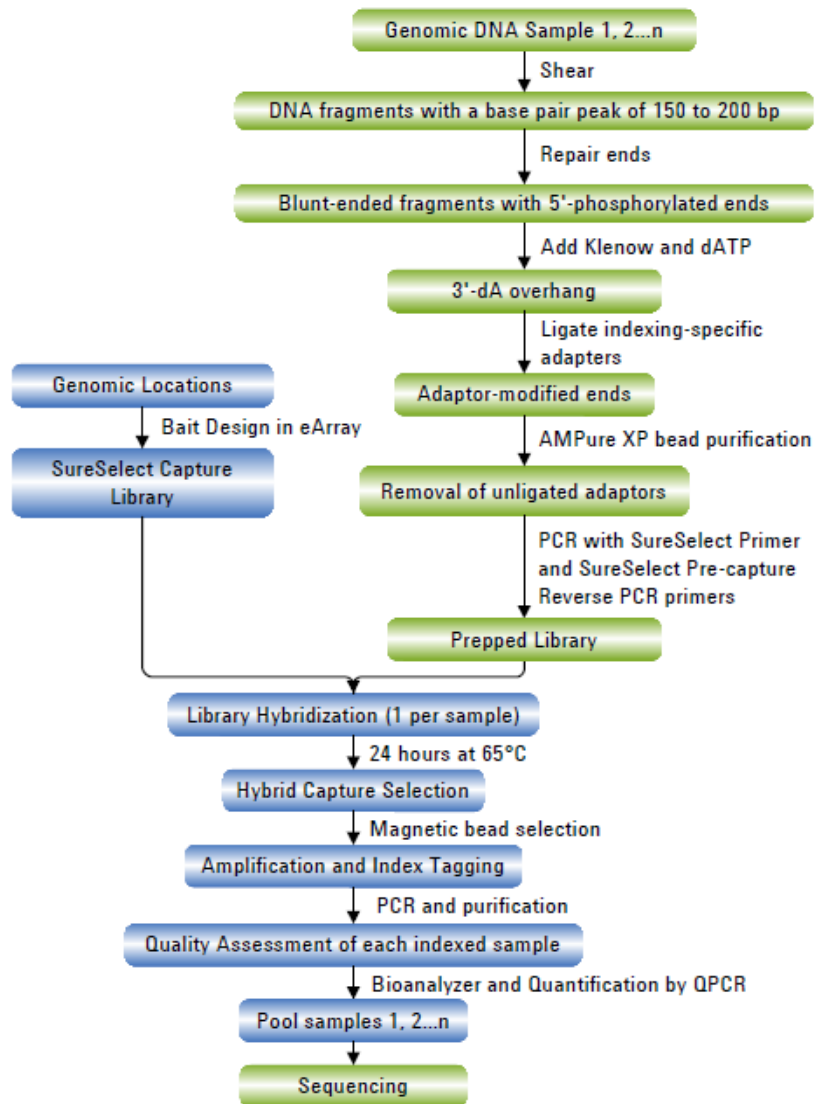

Figure 2 Overall sequencing sample preparation workflow.
Figure 2 summarizes the SureSelect target enrichment workflow for samples to be sequenced using the Illumina paired-read sequencing platform. For each sample to be sequenced, individual library preparations, hybridizations, and captures are performed. The samples are then tagged by PCR with an index sequence. Depending on the target size of the SureSelect capture, up to 16 samples can be pooled and sequenced in a single lane using the Illumina-specified multiplex index tags that are provided with SureSelect Library Prep kits.
- At the hybridization step (see Figure 2), you can add a different SureSelect Capture Library to each row of the plate. Plan your experiment such that each prepared DNA library corresponds to the appropriate SureSelect Capture Library.
- For sample indexing after hybridization to the SureSelect library (see Figure 2), you will need to prepare a separate plate containing the indexing primers. Assign the wells to be indexed with their respective indexing primers during experimental design.
- For post-capture amplification (see Figure 2), different SureSelect Capture Libraries can require different amplification cycle numbers, based on sizes of the captured targets. It is most efficient to process similar-sized Capture Libraries on the same plate. See Table 55 on page 112 to determine which Capture Libraries may be amplified on the same plate.